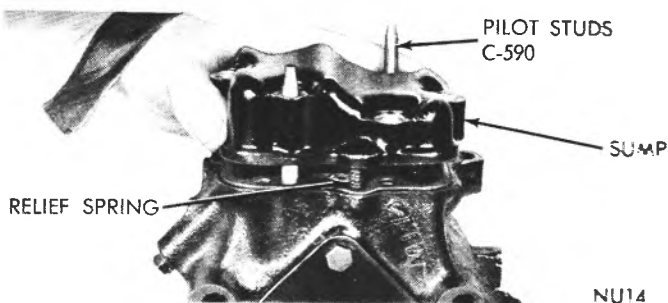

Fig. 39—Installing the Compressor Sump
(3) Install valve plates and cylinder heads.
(4) Turn compressor upside down. Install pilot studs, gasket, oil pressure relief ball and spring.
(5) Install the sump over pilot studs (Fig. 39), making sure the oil pressure relief spring depresses uniformly as the sump is lowered on the case.
(6) Tighten sump bolts finger tight to prevent spring misalignment, then tighten 14 to 20 foot-pounds.
(7) Refill with new refrigerant oil after the compressor is installed on vehicle. Do not re-use the oil that was previously drained.